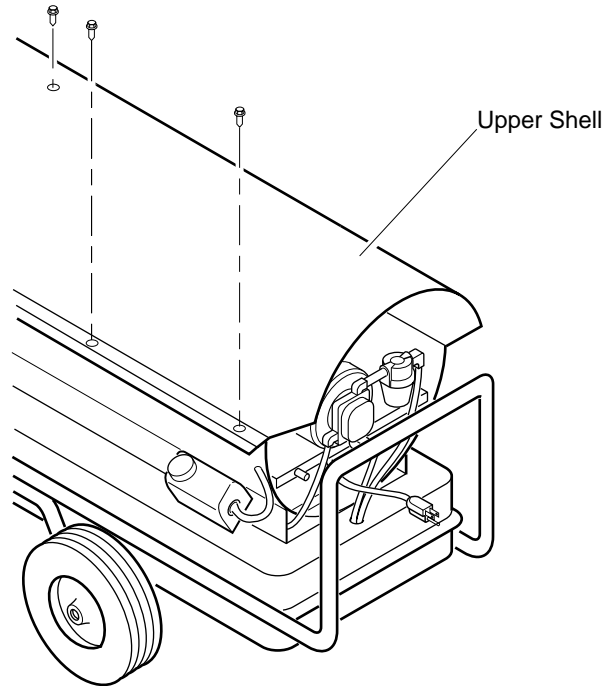

Figure 4 - Upper Shell Removal
1. Remove screws along each side and top of heater using 5/16" nut-driver. These screws attach upper and lower shells together (see Figure 4).